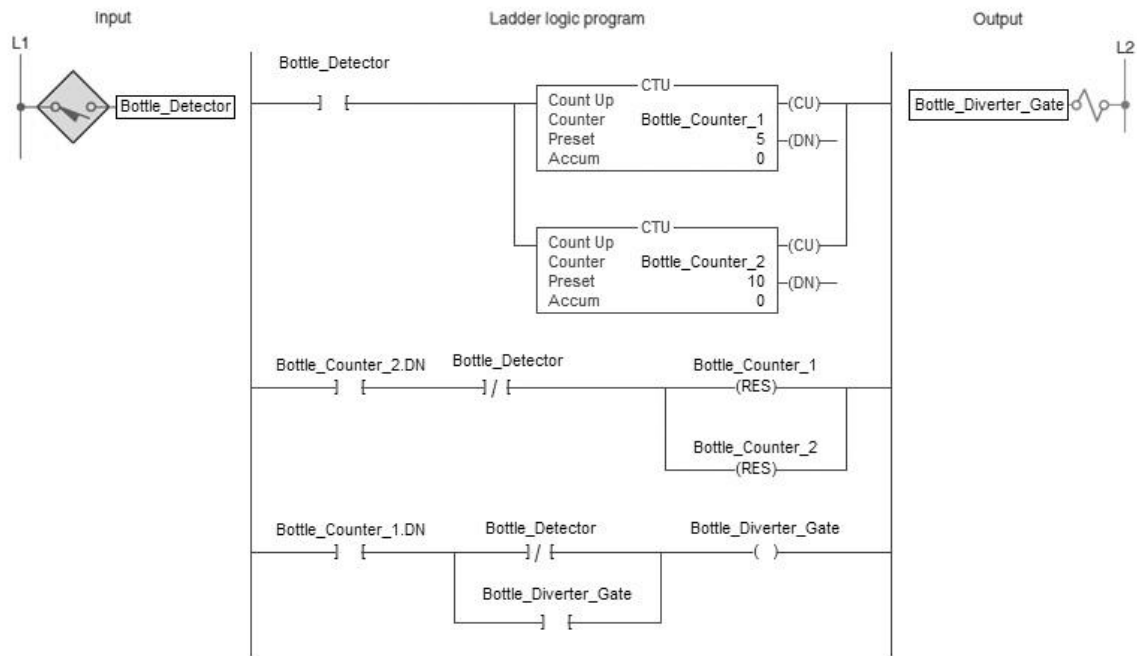

Figure 15-40 Bottling operation program for assignment 6.
6) Figure 15-40 is an example of a bottling operation where a PLC is used to remove 5 out of every 10 bottles as they pass by on a conveyor.